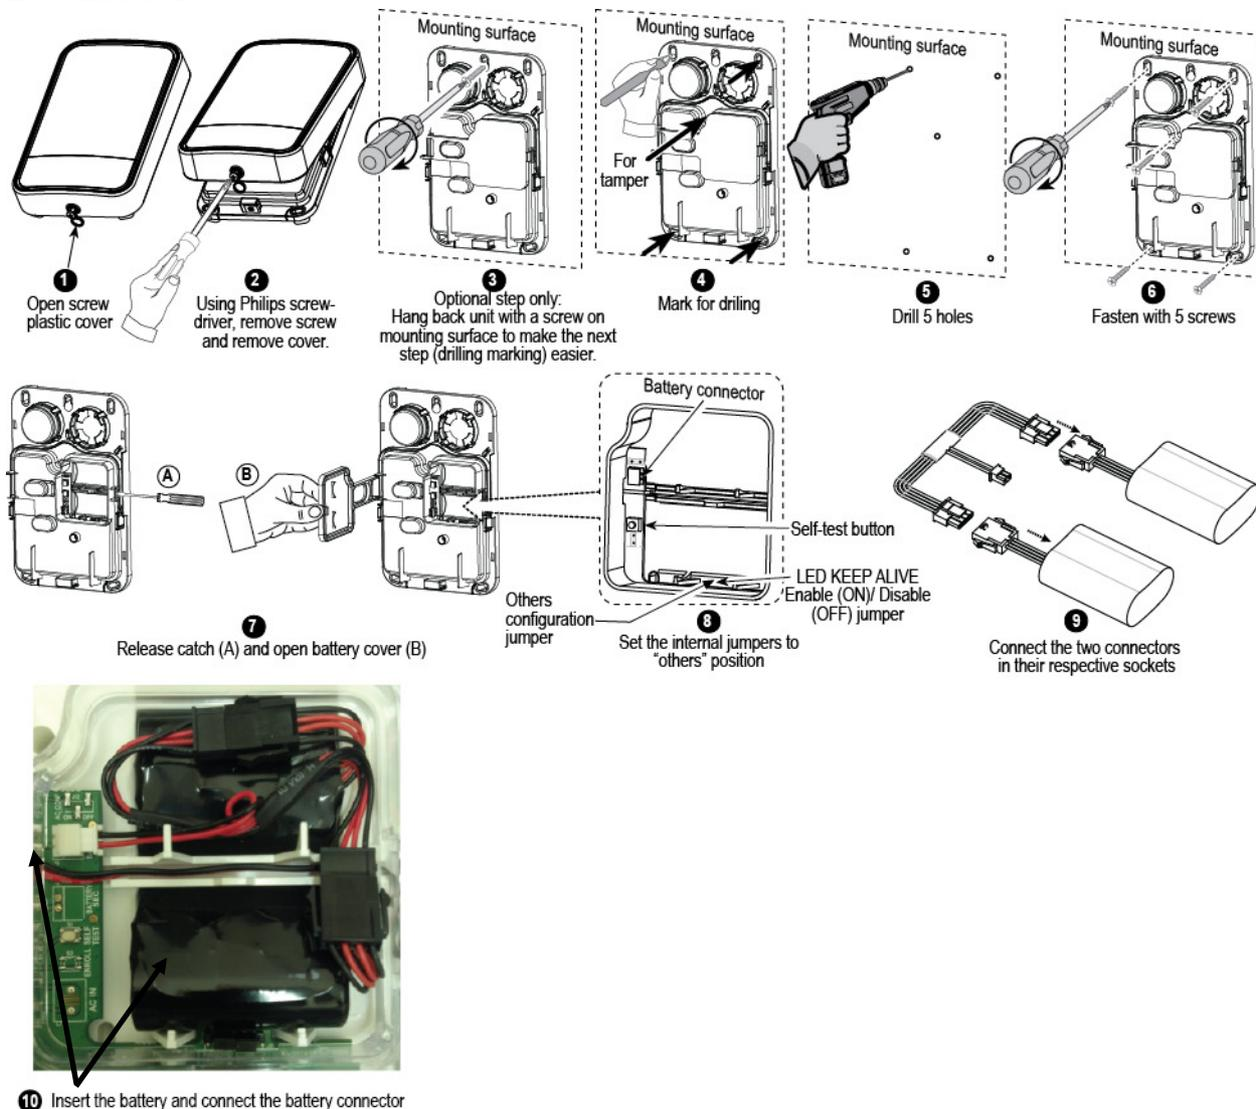

Figure 3 – Installation
- **Siren activity LED:** A flashing LED (optional, at the bottom of the siren front panel) indicates siren activity (can be disabled by an internal jumper, see fig. 3, step 8)
**Battery:** Four 3.6V/3.5A/H Lithium independent cells (EVE ER18505M) assembled in two plastic wrappings and connected to the cable adaptor (see Figure 3). Visonic assembly catalog no. 103-304742.
Press the self test button (see figure 3 step 8). Low level piezo sounds and flash lights indicate that the siren is fully operational.
## 3.3 Configuration (see figure 3, step 8)
The alarm system must recognize the siren's unique identification code for command delivery and supervision. To enroll the siren into the alarm system memory, refer to the ENROLLING section of the alarm system installation instructions, and momentarily press the Self-Test button (see figure 3 step 8) when you are instructed.